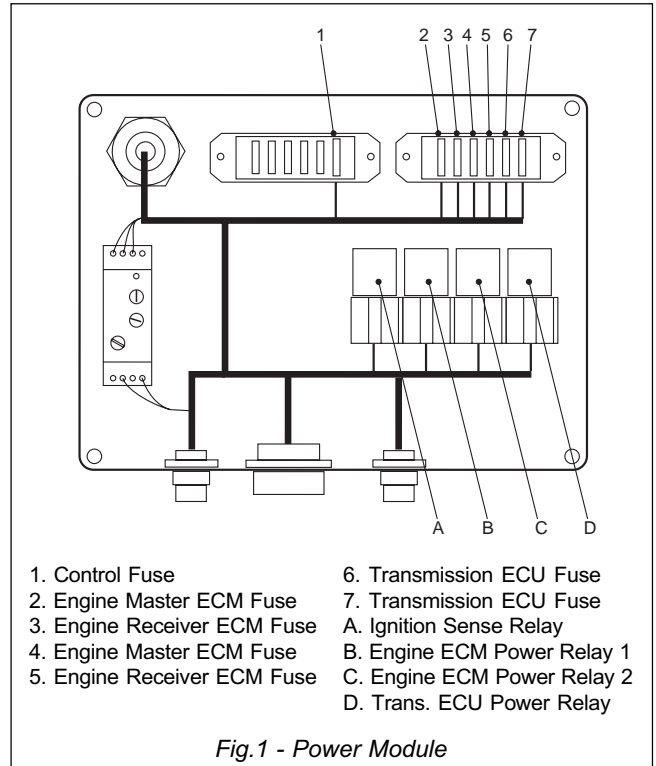

Fig. 1 - Power Module
**Power Module** - The Power Module is located on the side of the battery box (Fig. 1). The Power Module contains ignition run fuses and relays, and a timer relay for the shutdown function of the ECU. The ignition fuses and relays open power to the ECU. On power shut down the timer relay remains open for a 30 second period to allow the ECU to down load information and close down properly (Fig. 2).